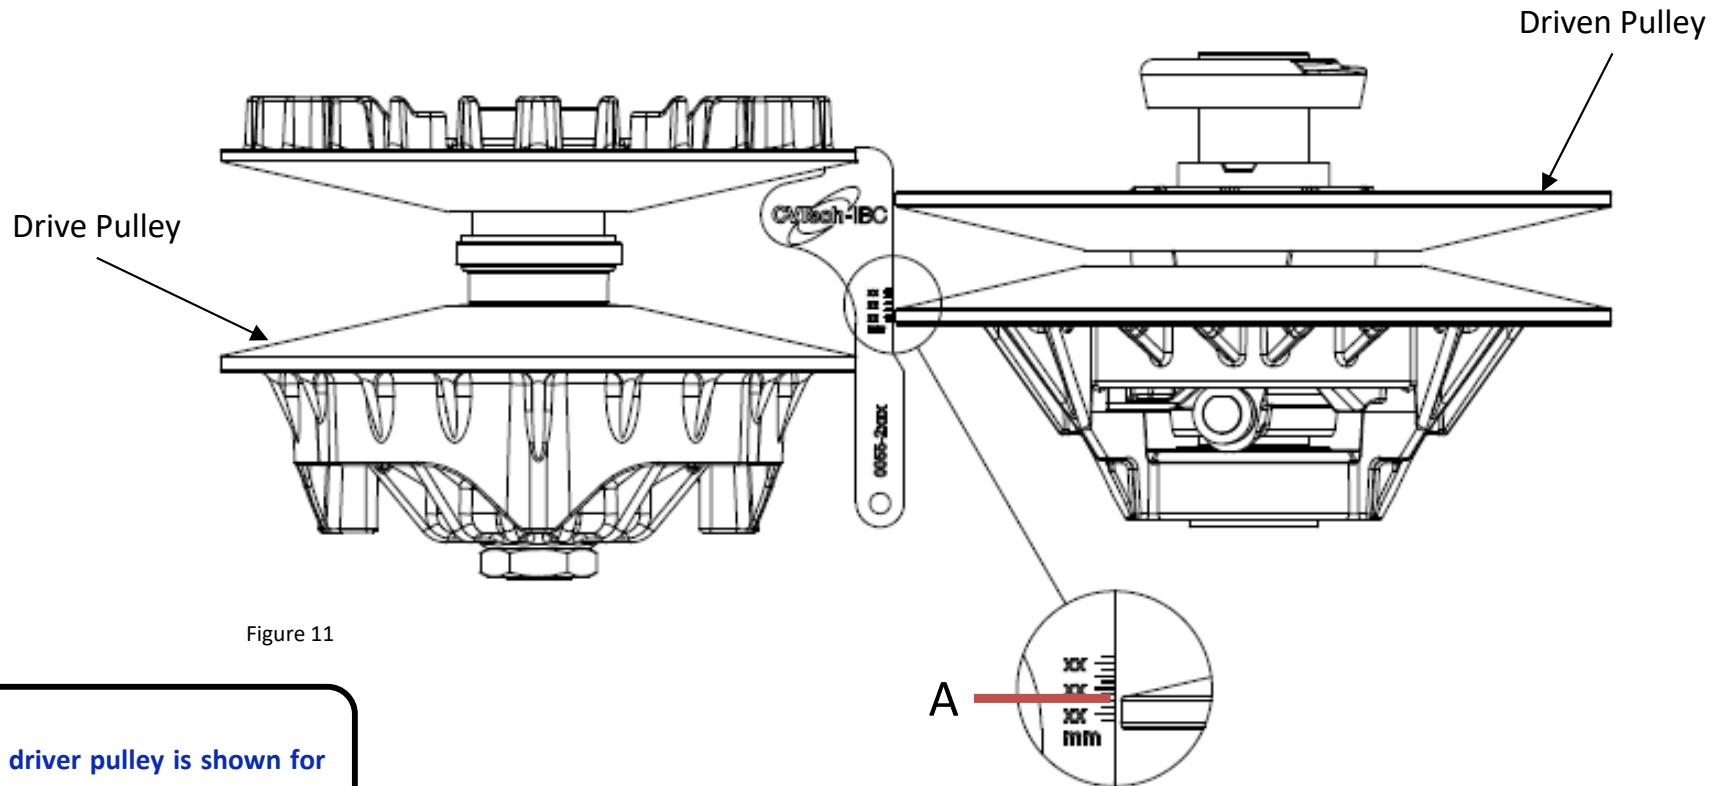

Figure 11
- After completing the installation, check the alignment between the pulleys with the alignment tool. Make sure to obtain dimension A (figure 11) and the proper alignment tool part number (refer to owner's manual for both).